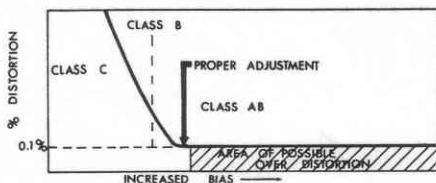

FIG. 1
5. Turn volume control to maximum. Connect an Intermodulation Distortion analyzer to the amplifier aux. input and adjust the analyzer output for an amplifier output of 1.5V across 8 ohms. (Because the output stages have been set into heavy class "B" operation by the "pre-setting" in Step 2, a class "B" notch in the distortion waveform will be obvious.) Adjust the bias pot (R60 or R160) for minimum distortion as shown in Fig. 1.